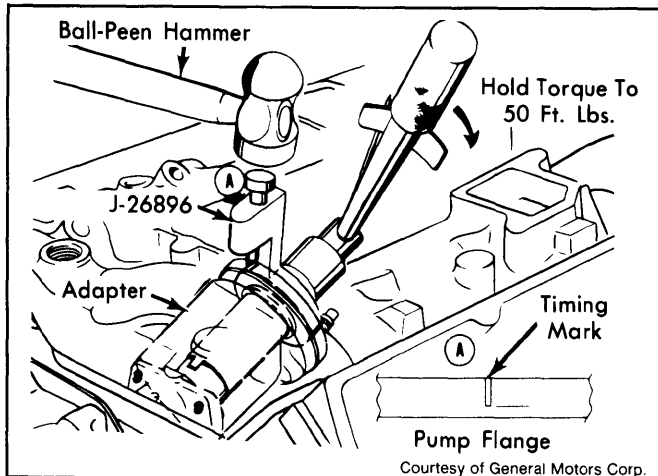

Fig. 9: Holding Torque On Adapter While Marking Timing Marks
4) Install Injection Pump Timer (J-26896) into injection pump adapter. Torque timer in direction of No. 1 cylinder to 50 ft. lbs. While holding torque, mark injection pump. See Fig. 9. Remove injection pump timer. Install injection pump, lines and air crossover assembly.